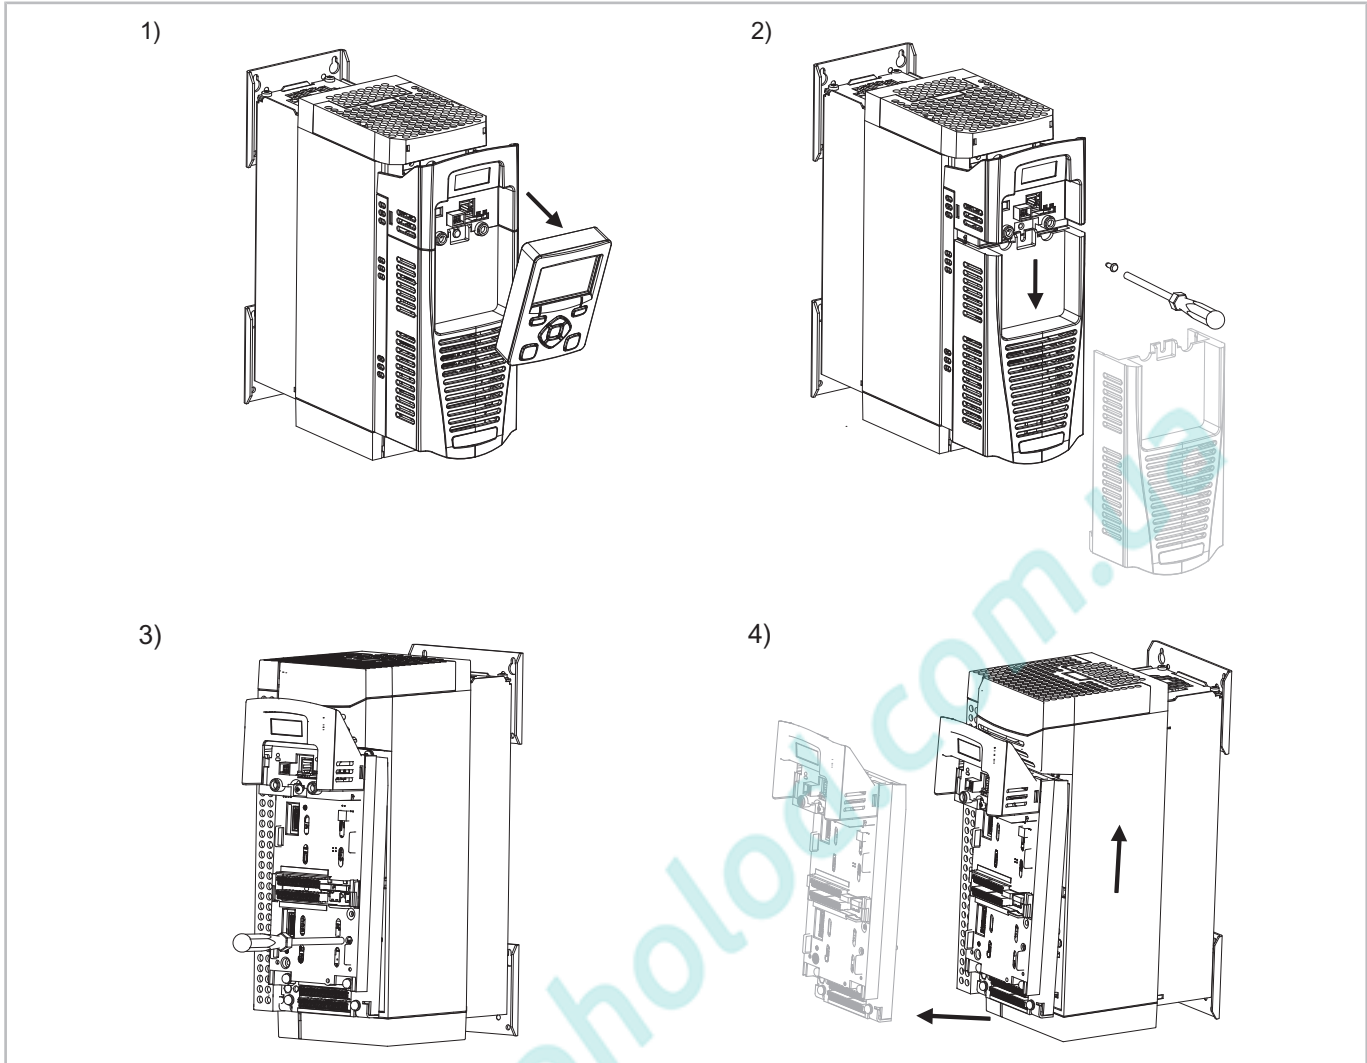
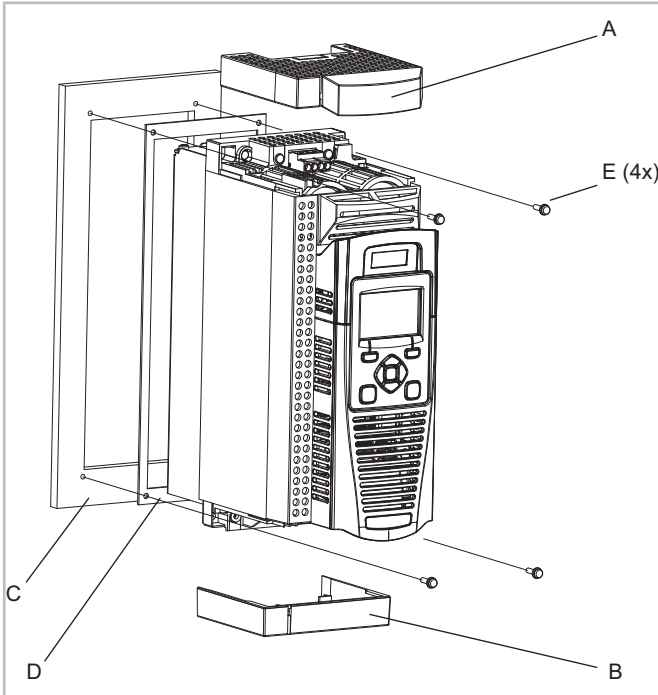

Fig. 7: Dismounting the control module
Fig. 8: Detailed view of the through-switch cabinet mounting (example FDU)
Graphical explanations, see figure 7, page 46 and see figure 8, page 47.
To allow the upper housing cover to be slid forwards and dismantled, with these types the control device must be dismantled (see figure 7, page 46).
Dismounting the control module (see figure 7, page 46):
With these types, the control module does not need to be dismantled, in order to take off the housing cover (see figure 8, page 47).
- Introduce the screwdriver into the slot of the lower housing cover (B) and press it slightly towards the left. This will open the lock.
- In the accessories kit: Place the delivered gasket (D) around the frequency inverter in such a way that the free space between the switch cabinet wall (C) and the FI is sealed airtight.
- Mount the VARIPACK frequency inverter to the switch cabinet wall using 4 fixing screws (E) (see figure 8, page 47).